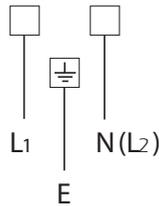

Figure 4
- Connect the new supply cable, of suitable type and section, to the terminal board following the diagram in Fig. 4.